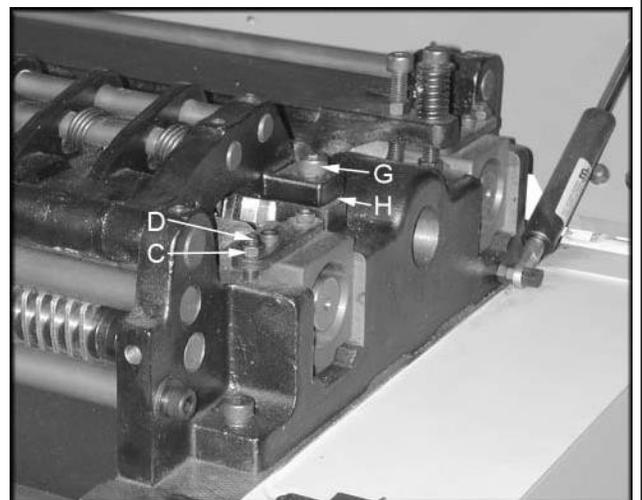

Figure 14
5. If it doesn't, loosen jam nut (C, Fig 14) and turn the adjusting screw (D, Fig 14) to raise, or lower the in-feed roller until it contact the wood gauge.
6. If it doesn't, remove the socket head cap screw (G, Fig 14) and remove washer (H, Fig 14), or replace with shim of proper thickness to raise, or lower the chipbreaker until it contacts the wood gauge.